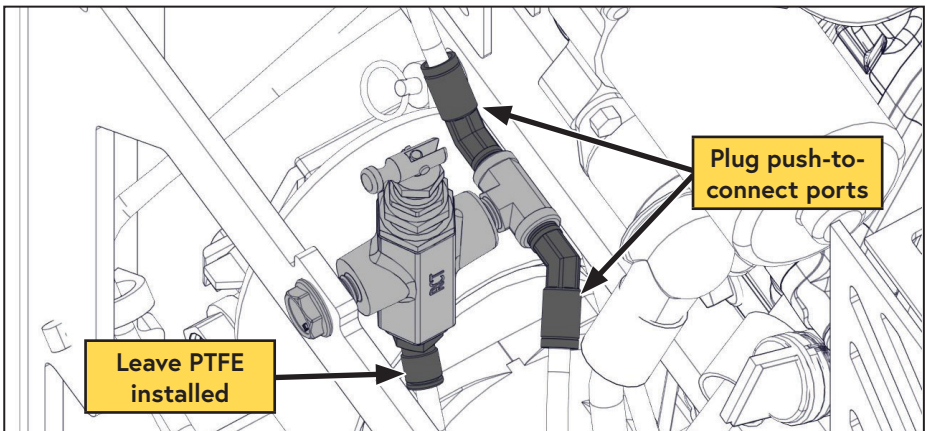

Figure 42 — Plug unloader valve
- Plug both sides of the Tee that the push-to-connect fittings are installed in (leave the PTFE tube plugged into the bottom push-to-connect fitting) (Figure 42).
- Remove the 1/4 in NPT plug from the unloader valve and install the push-to-connect fitting (Figure 42).